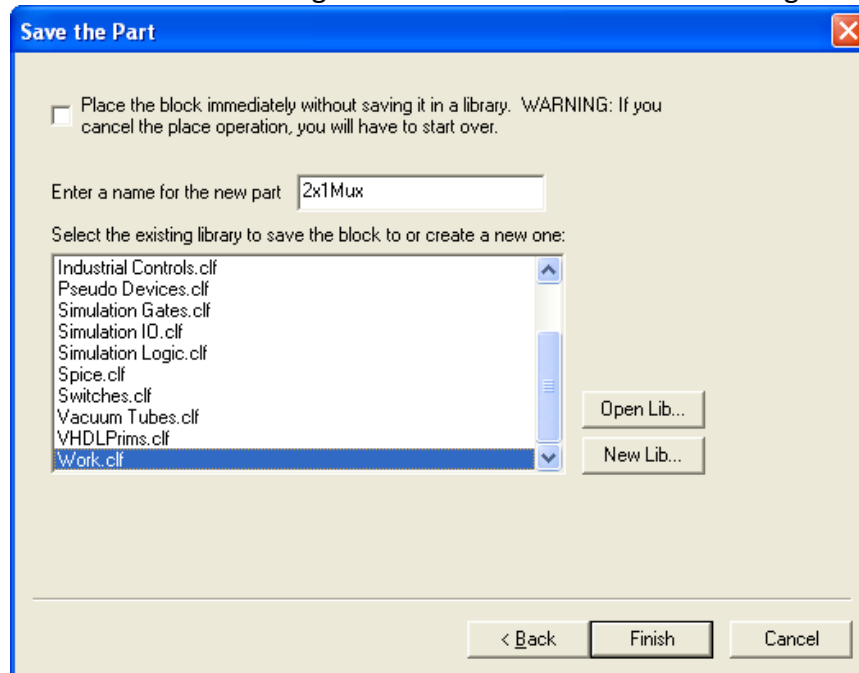

Figure 9
- o. Click on the “Next” button to get the “Save the Part” window of Figure 9.